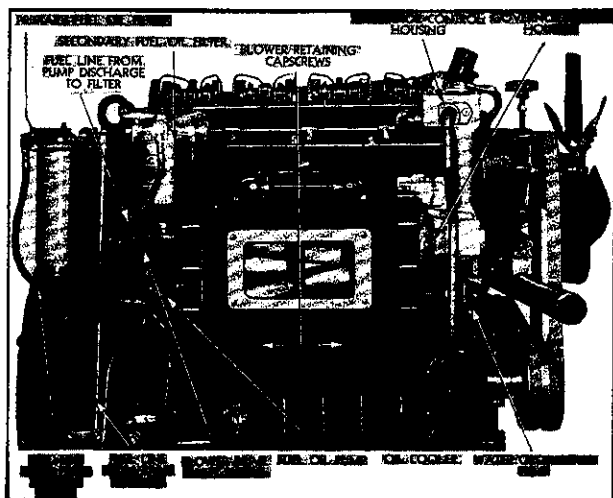

Fig. 3—Blower Mounting—Shown with Mechanical Governor.
- (b) With strong light directed into rotor compartment, observe end plate for thin film which will radiate away from a leaky oil seal. (See Fig. 3, for location of blower oil seals.)